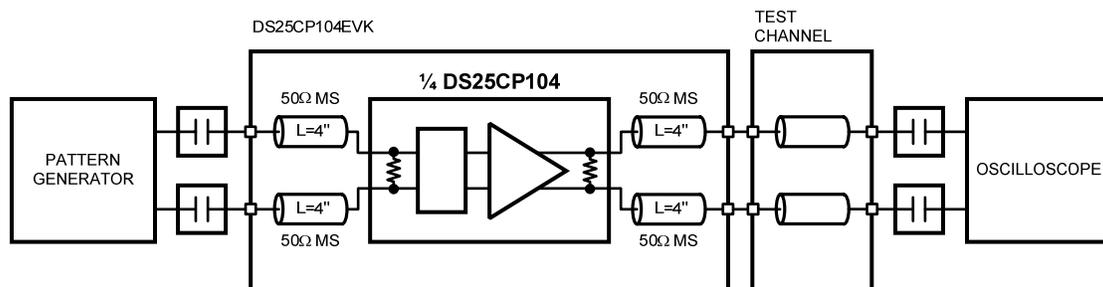

**Figure 4.** Jitter Performance Test Circuit
1. Configure the test setup as shown in Figure 4.
2. Configure the test setup as desired, examples are fig. 4 – fig. 7.